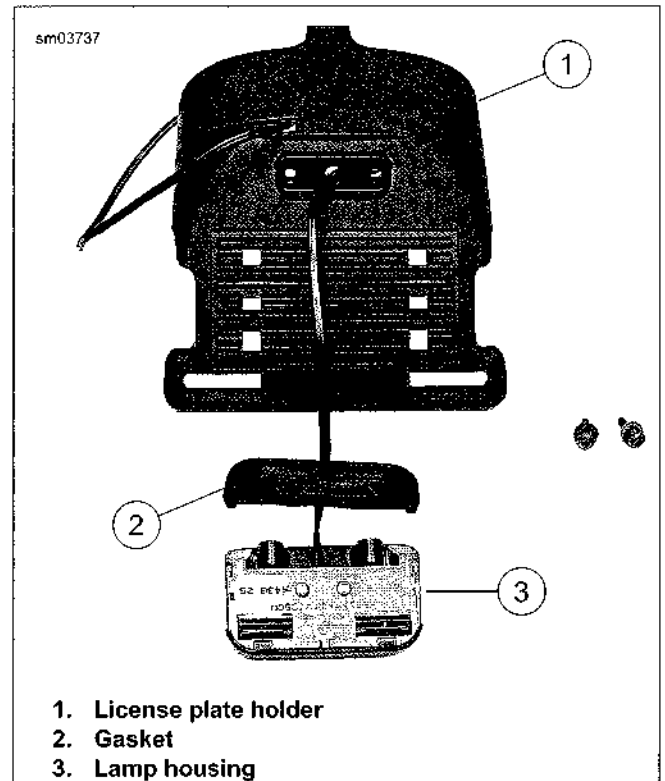

Figure 6-55. Lamp Housing Separated from License Plate Holder: XL 883N, XL 1200X/V (HDI)
- See Figure 6-55. Separate lamp housing (3) and gasket (2) from license plate holder (1).